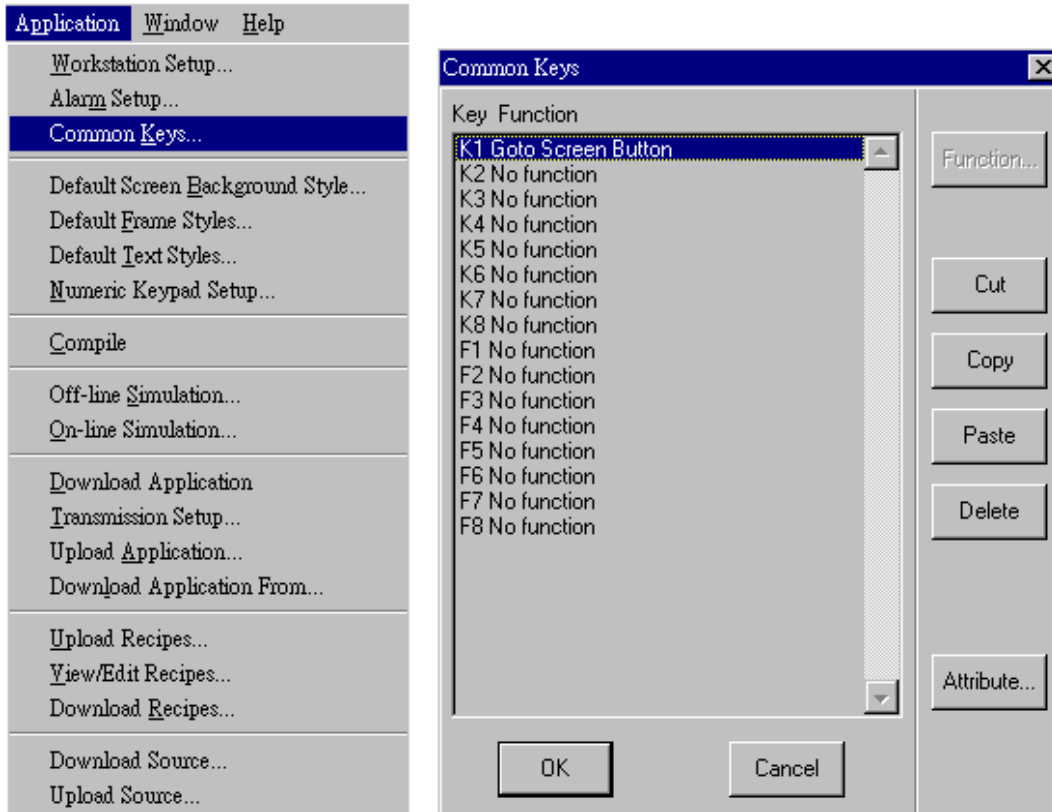

Figure E-6
- 1) **Common Keys** - A common key is used to activate a designated function no matter what the current screen is. For example, you can press the key K01 to return to the screen 1 whenever you want if the key is configured as a common key that goes to screen 1. To configure common keys for your application, select Common Keys on the Application sub-menu of the ADP3 as shown in the Figure E-6.